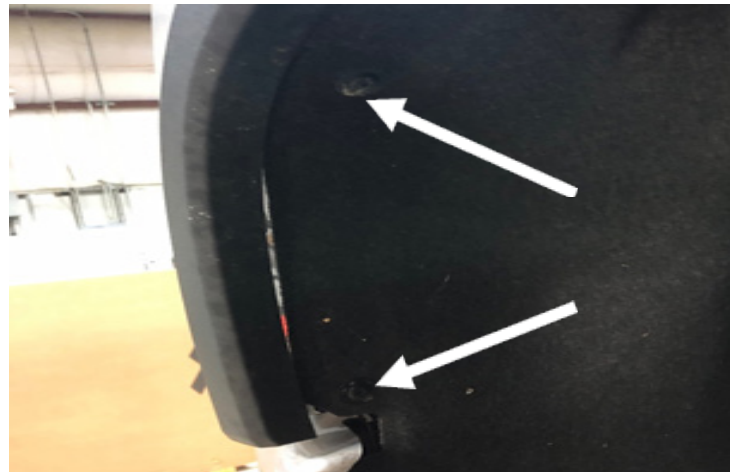

Figure 1
**1. Use a T10 star head socket wrench to remove the two (2) bolts from both the passenger and driver side wheel wells. Figure 1.**